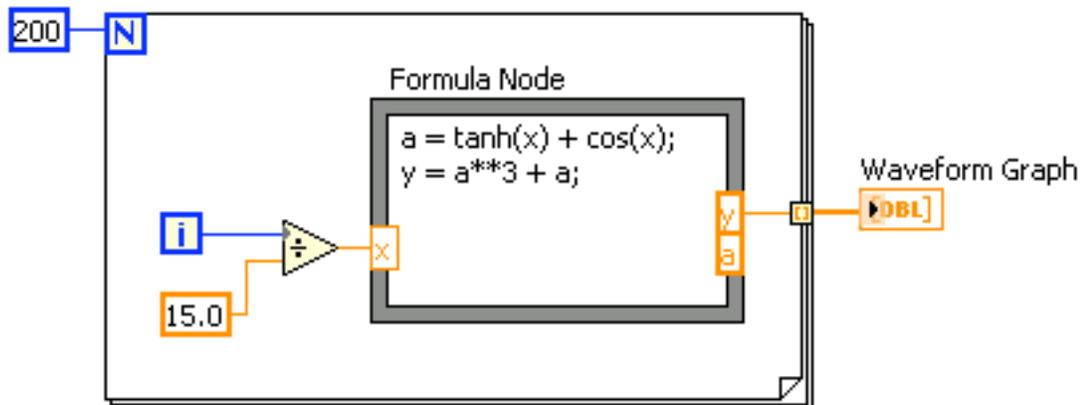

Figure 2
1. Build the block diagram shown in figure 2.
5. Complete the block diagram as shown in figure 2.